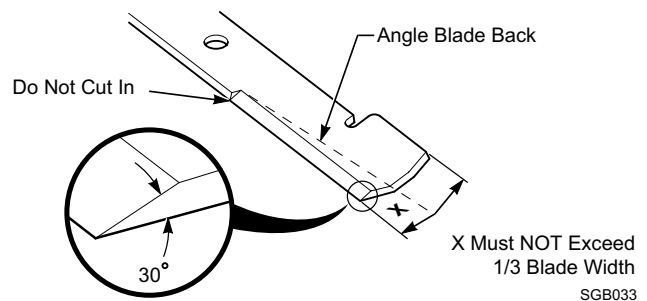

Figure 7-6. Blade Sharpening
DO NOT sharpen the blades beyond 1/3 of the width of the blade. See Figure 7-6.
1. Sharpen the cutting edge at the same bevel as the original. See Figure 7-6. Sharpen only the top of the cutting edge to maintain sharpness.